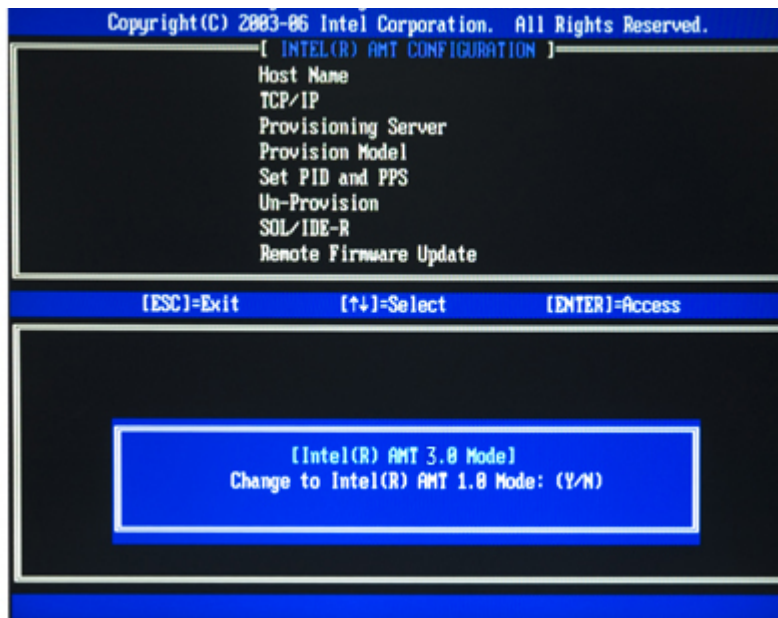

Figure 7-7: Intel® AMT 5.0 Mode
Step 7: When the screen in **Figure 7-7** prompts, enter N and press Enter.